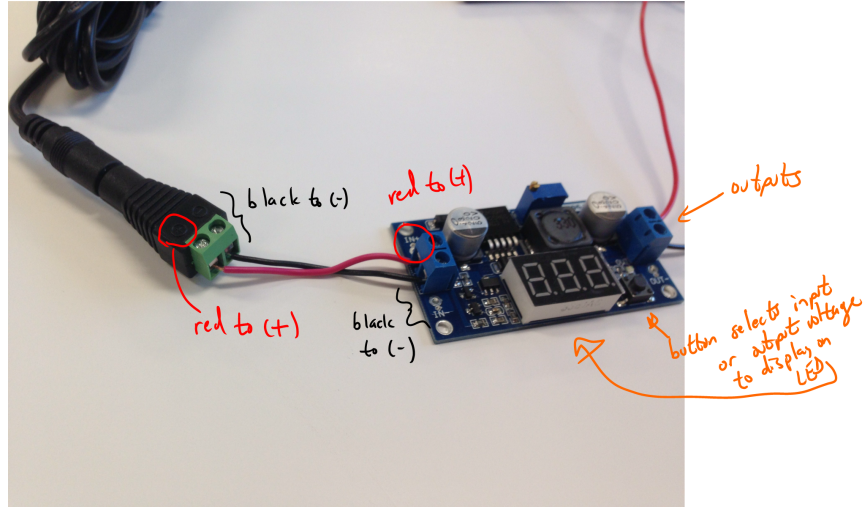

Figure 8: Image showing power supply connections.
2. If it hasn't been done already, connect the 5.5mm/2.1mm output terminal of the power supply to the voltage regulator using the supplied adaptor. Use the standard convention of red for positive voltage and black for ground (negative). See Figure 8.